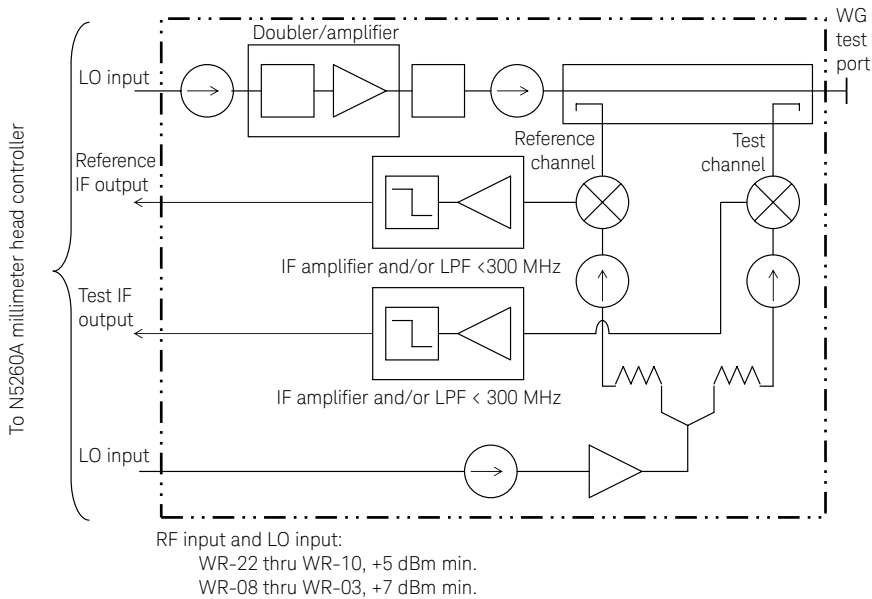

Figure 2. Simplified block diagram of an OML T/R test head module.
OML VNA2 waveguide test head modules are available in transmission/reflection (T/R) and transmission (T) configurations. Each Keysight part number, N5260AWxx, includes a pair of T/R test head modules and the respective WG calibration kit. Figures 2 and 3 show the simplified block diagrams of an OML VNA2 T/R test head module and a T test head module, respectively. Other combinations of test head modules may be available from Keysight Technologies; as an example, one T/R and one T modules. Please contact your local Keysight Technologies representative for more detail.
Power control is not available when operating at banded millimeter-wave frequencies. Although one appears to be able to vary power under **Channel > Power... > Test Port Power**, in reality, it makes no difference at the waveguide interface because (1) the amplifiers inside the test head modules are designed to operate at saturation (see Figure 2), therefore, increasing the RF Test Port Power in the PNA results in no change at the waveguide interface; (2) the RF and LO outputs from the rear panel of the PNA are coupled off before the splitter or any control mechanism, thus, providing no control for power.